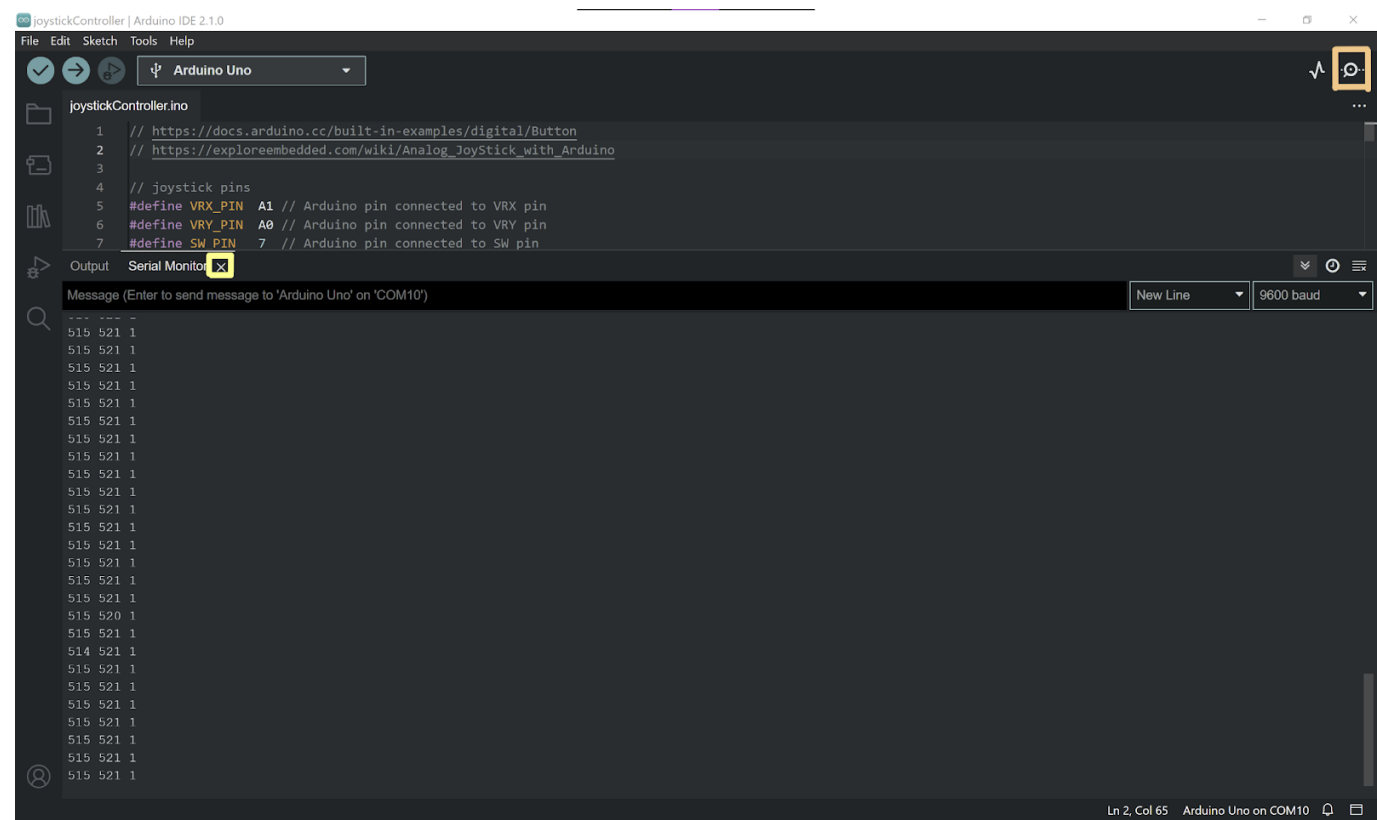

Figure 3: Opening and Closing the Serial Monitor (the orange and yellow boxes respectively)
- After the program is uploaded, check that everything works by opening the serial monitor in the upper right corner where there is a magnifying glass. If it prints out a series of 3 numbers that change when you move the joystick and press the buttons, that means everything is wired correctly and it's ready to go. *Refer to figure 3 for help.*
- Close the serial monitor (you can do this by either closing the IDE or clicking the little "x" that appears on the serial monitor tab at the bottom of the screen (you must do this before you run the python file since only 1 application can access the serial monitor at a time). *Refer to figure 3 for help.*